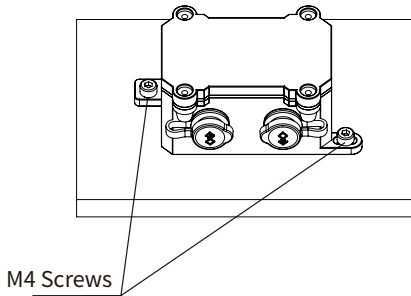

Figure 3-8
**Step 6:** Place the driver module on the proper position on the board and fix it with M8 screws (refer to figure 3-8 for the fixing holes).